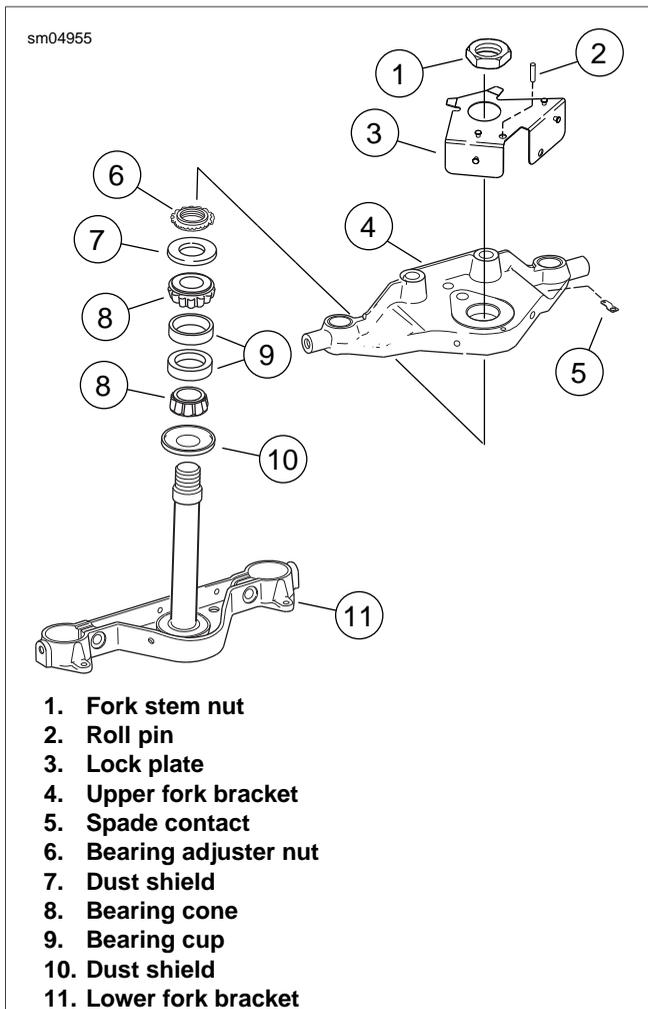

Figure 2-66. Steering Head/Fork Bracket Assembly
5. Bend tab on lock plate away from flat of fork stem nut. Remove fork stem nut. See Figure 2-66.